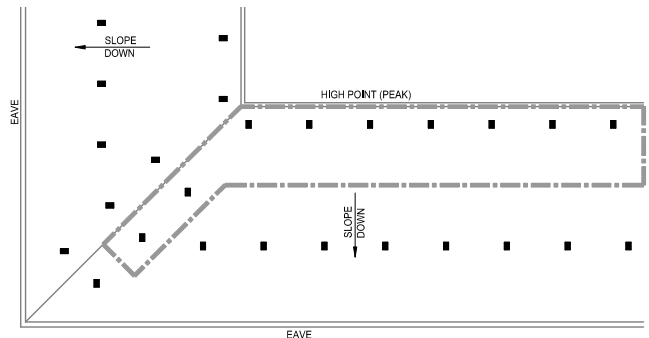

FIGURE 22B: 2 ROW PROTECTION CALCULATION #1
- Calculation #1: Calculate the 7 most hydraulically demanding contiguous DS sprinklers located along the high point (peak) plus the 2 most demanding sprinklers along the hip line. See FIGURE 22B.